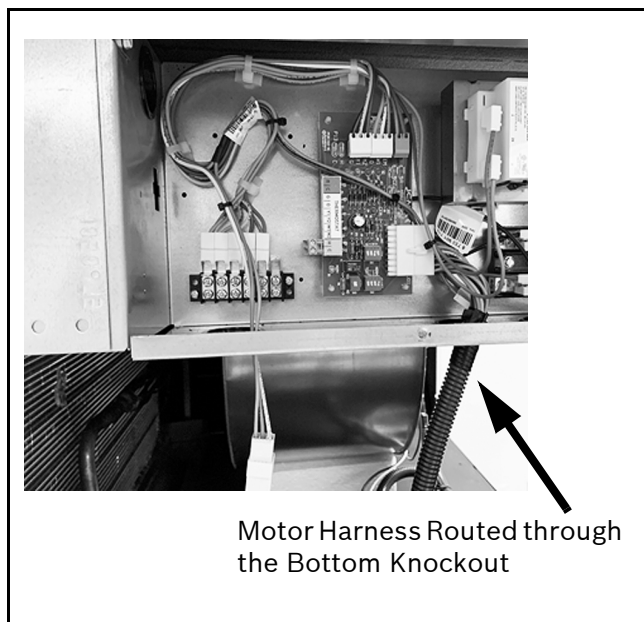
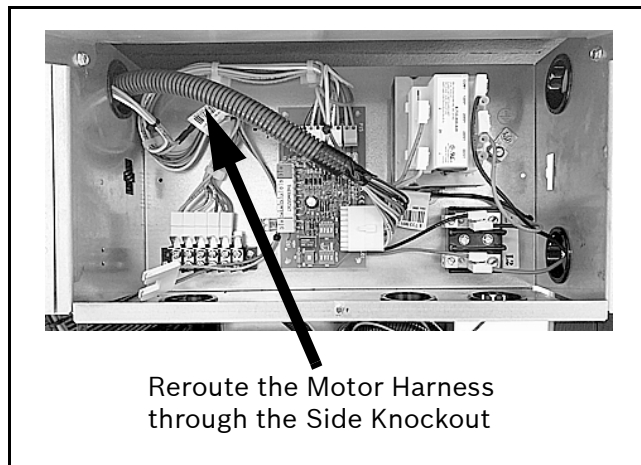

Fig. 17 Motor Harness Routed through Bottom Knockout
Fig. 18 Motor Harness Relocated through Side Knockout
8. In the main Electrical Control Box, locate Motor Harness connected to ECM interface board. If the harness is routed through bottom knockout follow step 9 to re-locate in order to allow enough space to install the Electric Heat Control Box (See Fig. 18). If Motor Harness is not routed through bottom, skip step 9.
9. Reroute the Motor Harness from the bottom knockout through the left-side knockout as shown in Fig. 18 for right-hand configuration. Use the upper-right knockout for the left-hand configuration. (See Fig. 17 and Fig. 18.)